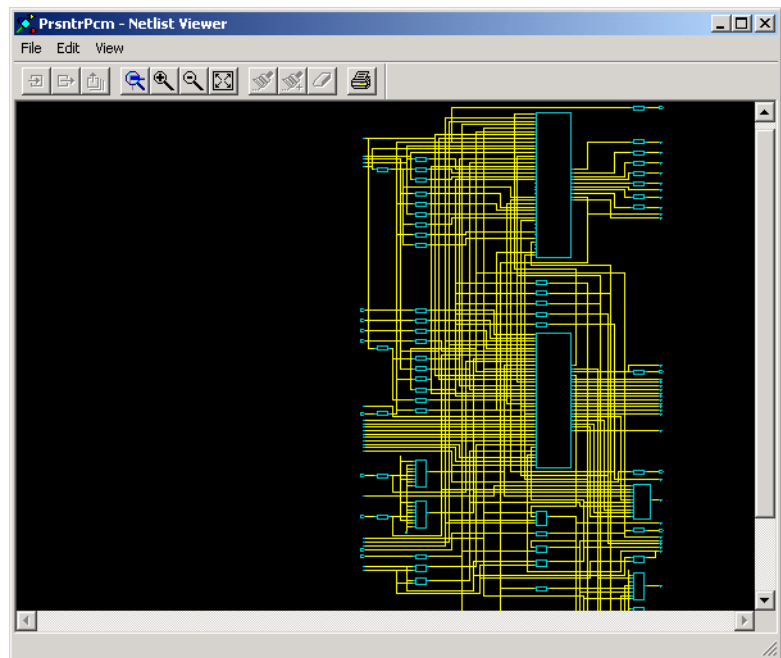

Figure 2-1. Netlist Viewer Opens
1. **Start Netlist Viewer.** Click *Netlist Viewer* in the Design Flow window. The Netlist Viewer starts and displays your netlist as shown in Figure 2-1.